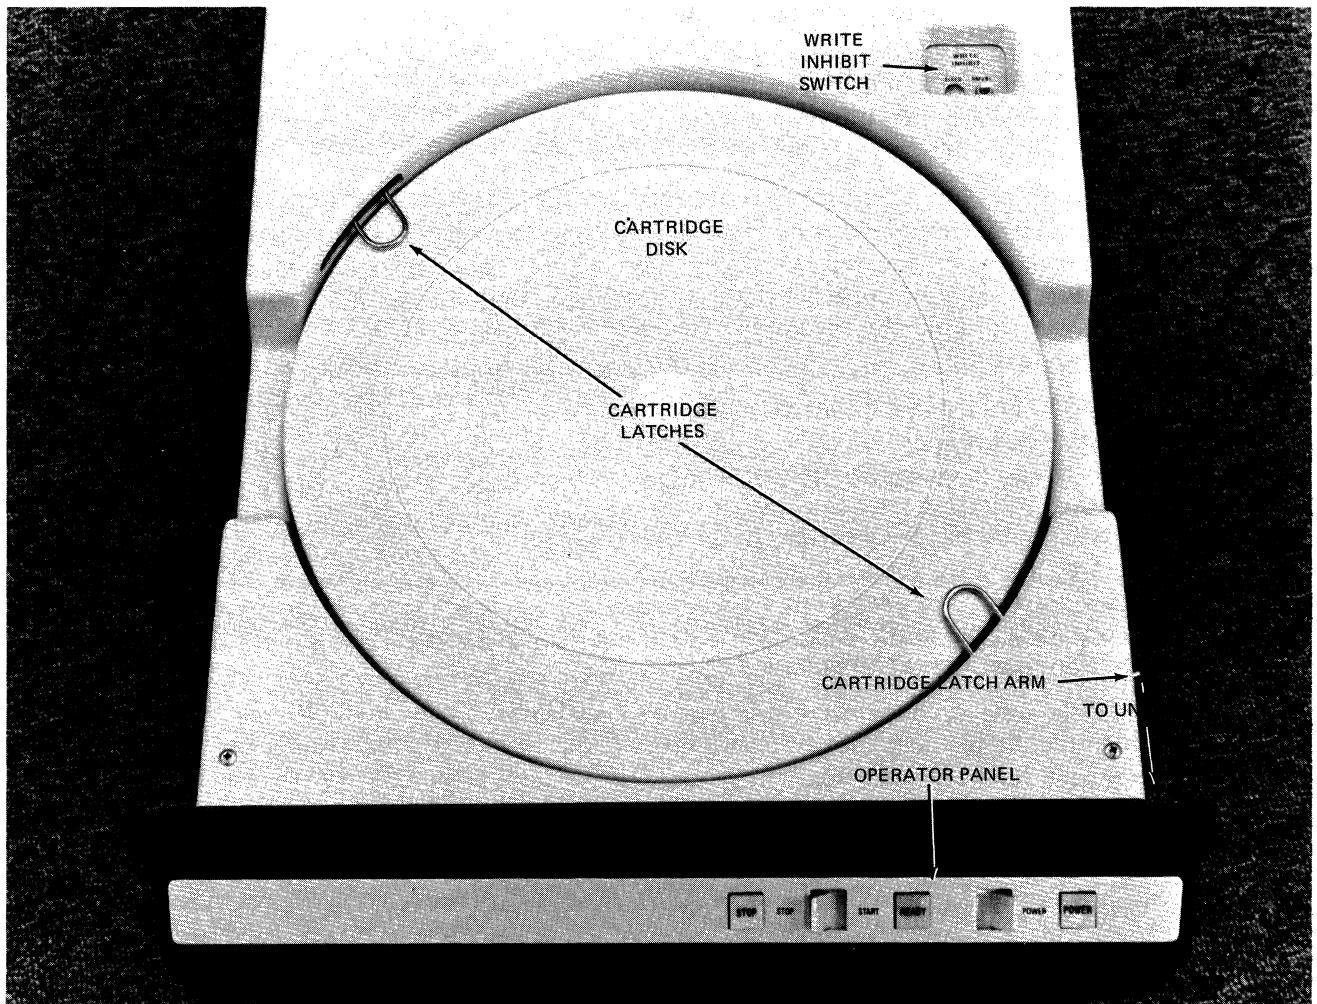

Figure 10-3. CDU9101/9102/9103/9104 Controls and Indicators
Cartridge disk controls and indicators are shown in Figure 10-3.
This lever is used to manually lock or unlock the removable cartridge disk pack. In the unlocked position, the two cartridge latches are retracted into the sides of the cartridge disk unit. In the locked position, the two cartridge latches are extended and lock the disk pack in place (Figure 10-3). The cartridge latch arm is inoperable while READY is lit.
10. Move the cartridge latch arm (Figure 10-3) into the locked position which extends latches over the top of the cartridge securing the cartridge to the drive. If the latches do not close over the cover, the cartridge is not installed properly.